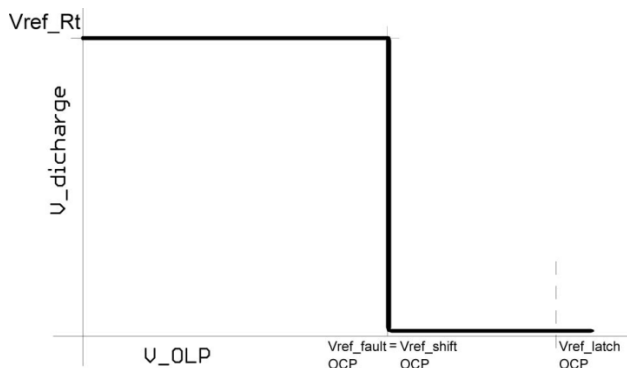

Figure 38. OLP to Discharge Pin Transfer Characteristic
2. The second overload protection mode is activated additionally to the first one i.e. when the OLP pin voltage exceeds 1 V. The frequency shift is implemented via Rt and Discharge pins in this case by pulling the discharge switch down from Vref\_Rt to ground – refer also to Figure 38 for Vdisable evaluation with OLP input voltage. The Discharge pin is connected to the Rocp and Cocp network, that is present on the Rt pin, via resistor Rshift. This configuration allows to adjust OCP frequency shift depth and reaction time and thus ease overload system implementation in any application.